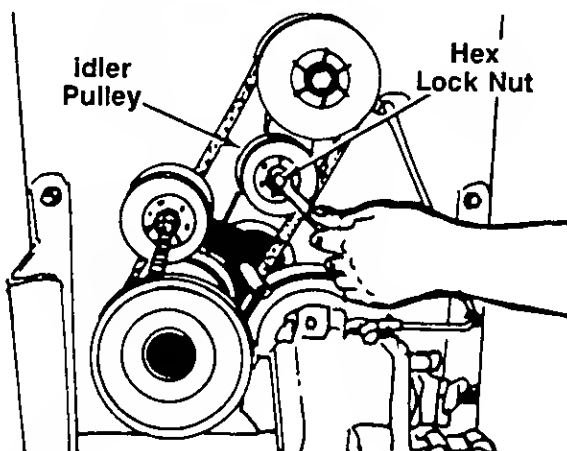

FIGURE 30.
8. Remove the idler pulley by removing the hex lock nut. See figure 30.